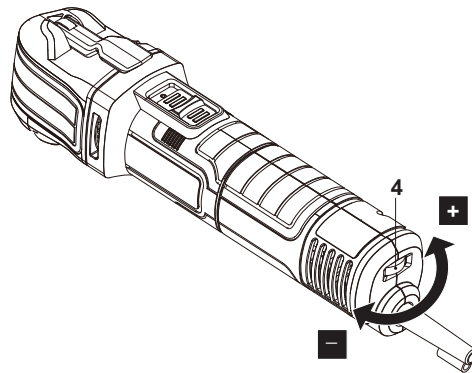

Fig. 14
Limit the maximum speed using the speed dial (4) according to the application (Fig. 14).
- > Turn the speed dial (4) right to increase the maximum speed.
- > Turn the speed dial (4) left to decrease the maximum speed.